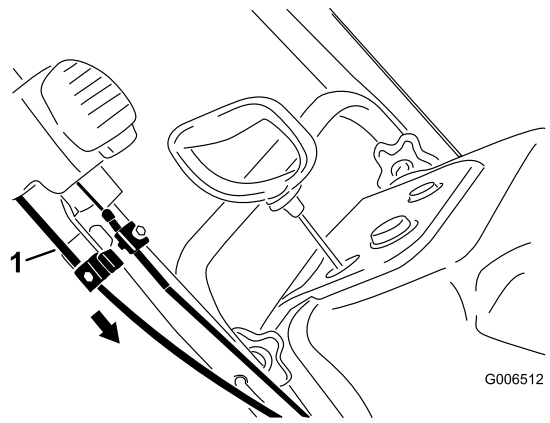

Figure 44
4. Hold the discharge chute in the straight-ahead position, pull the lower cable casing downward until you remove the slack in the cable, and tighten the screw on the lower cable clamp securely (Figure 44).